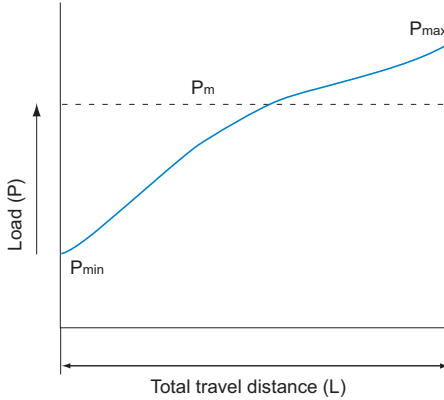

Fig.3
As this load is monotonically varying as shown in the Fig.3 on **B3-21**, calculate the average load using the equation (13) on **B3-21**.